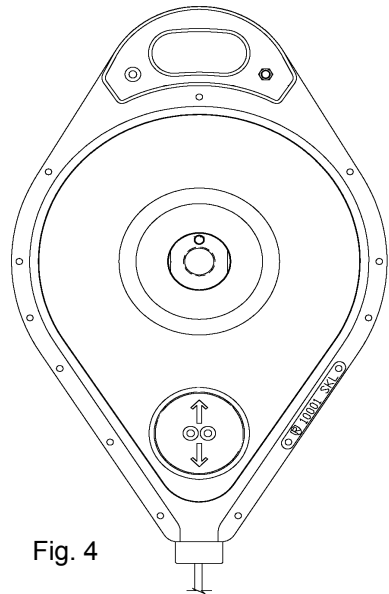

Fig. 4
2. Insure Locking Knob is inline with the cable (See Fig. 4).
11. To return to fall arrest mode, walk away from anchor point allowing slight slack in cable. Worker standing by the unit can now pull up on the locking knob and turn knob 90 degrees. Arrows should be inline with cable (See Fig. 4)